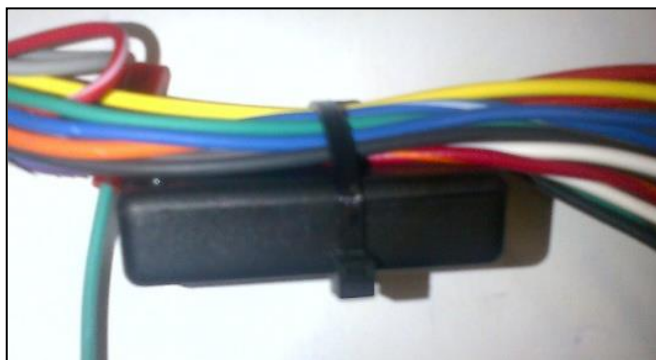

Figure 8
8. Neatly tie wrap the digital sensor module to the harness. (Figure 8)